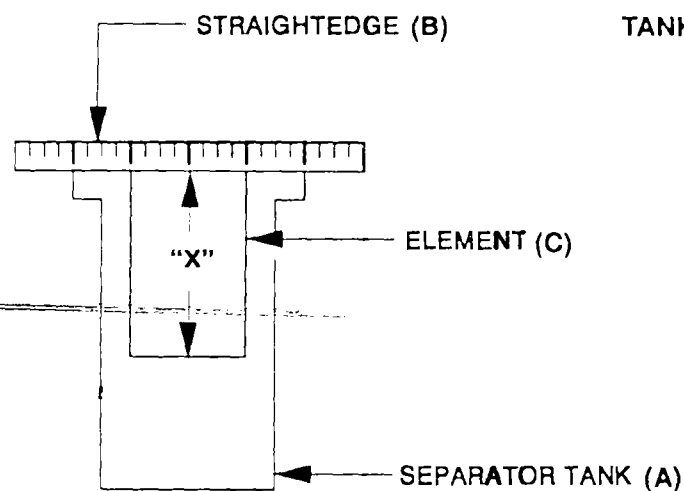
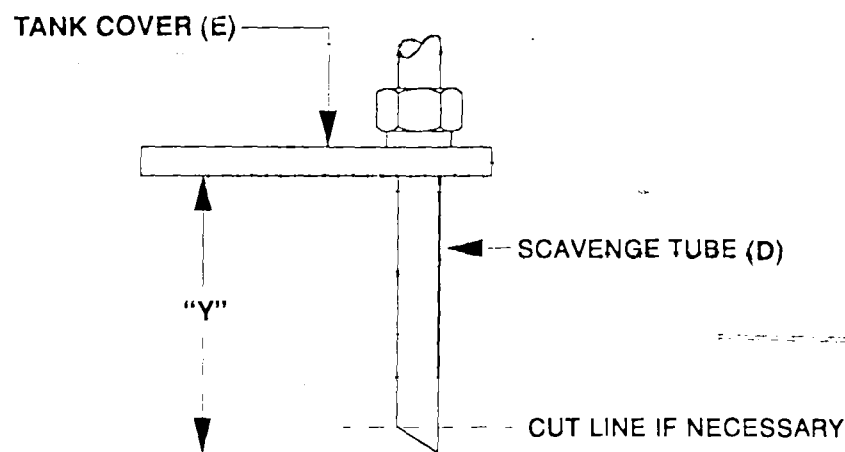

Figure 4.1 Element Measurement
Figure 4.2 Tube Measurement
- * Place a straightedge (B) across top of element (C) and measure ("X") from bottom of straightedge to bottom of element (See Fig. 4.1).
- * Replace scavenge tube (D) in cover (E) (cover is still off of tank).
- * Measure ("Y") from bottom of cover to end of scavenge tube (See Fig. 4.2). Measurement "Y" should be from 1/8" to 1/4" less than the measurement "X". If not, cut to size.